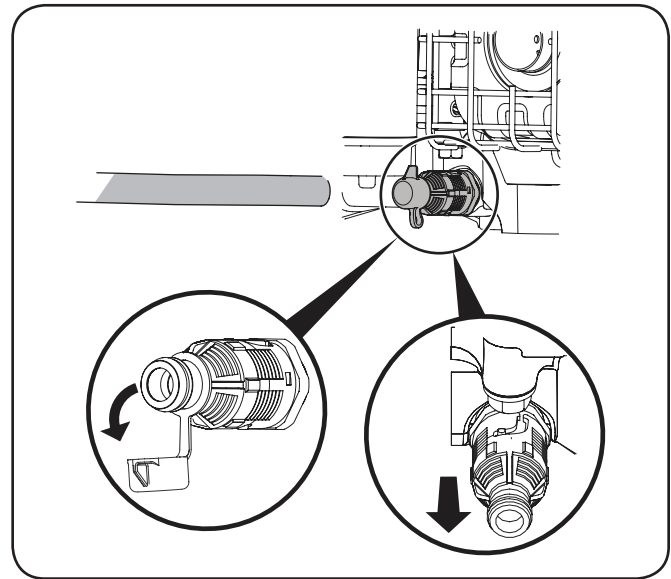

Figure 6-2
7. Turn the drain plug valve 1/4 turn counterclockwise while gently pulling the valve away from the engine to open the oil drain valve. See Figure 6-2.